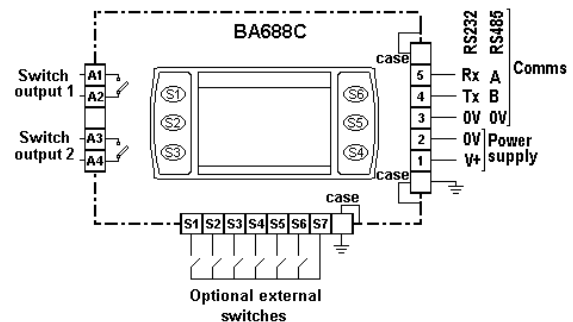
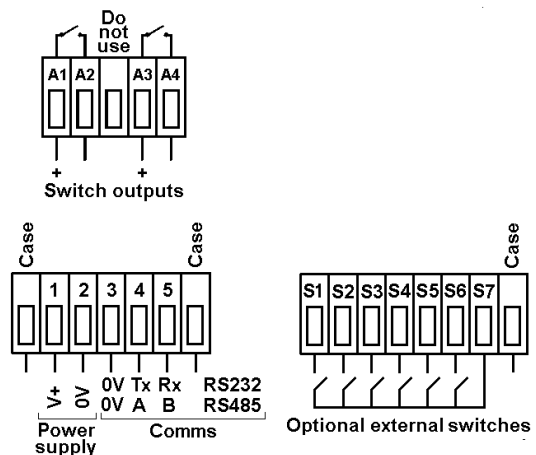

Fig 1 Simplified block diagram of BA688C
Fig 4 Installation and terminal connections
Fig 1 shows a simplified block diagram of a BA688C serial text display. Two versions are available, one has an RS232 port and the other an RS485 port. The type of port is shown on the label adjacent to rear terminals 3, 4 and 5. The two switch outputs may be controlled and the operator push-buttons interrogated via the serial communication link.
Figure 1 shows a functional block diagram of BA688C serial text display. Terminal locations are shown in Fig 4.
- Connect the panel wiring to the rear terminal block(s) as shown in Fig 4. To simplify installation, the terminals are removable so that panel wiring can be completed before the instrument is installed.